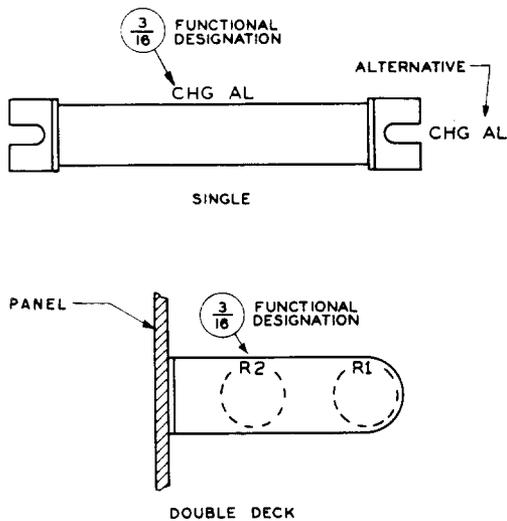

Fig. 40 - Resistor - Bracket or Cage Mounted
2.54 For bracket- or cage-mounted resistors, see Fig. 40. Use the best location for visibility and clearness of association. (Also see Fig. 49.) Designate on terminal side only unless isolated from the other apparatus in the same circuit.